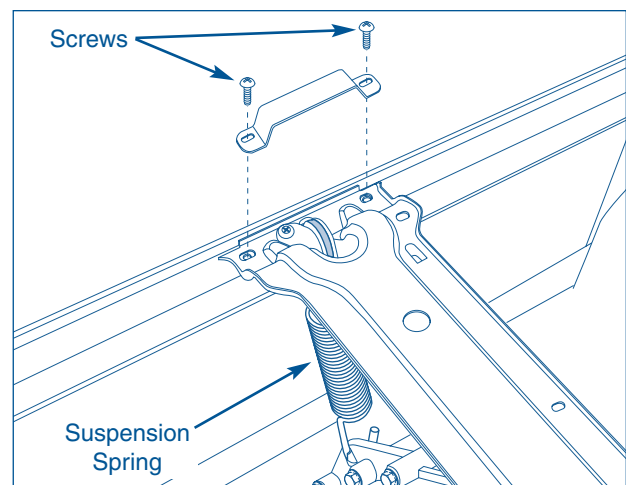

Figure 4-44.
3. Using a #2 square bit screwdriver, extract the two screws from each cover bracket. (See Figure 4-44)